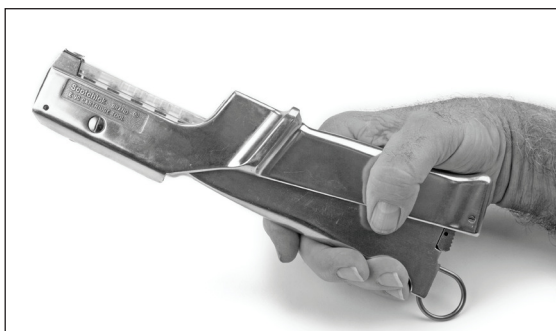

Figure 3. Cartridge loaded in place
- 3.5 Turn the loading ring at the rear of tool back to its original position and let it slide forward to lock. (Do not let it slam forward). See Figure 3.